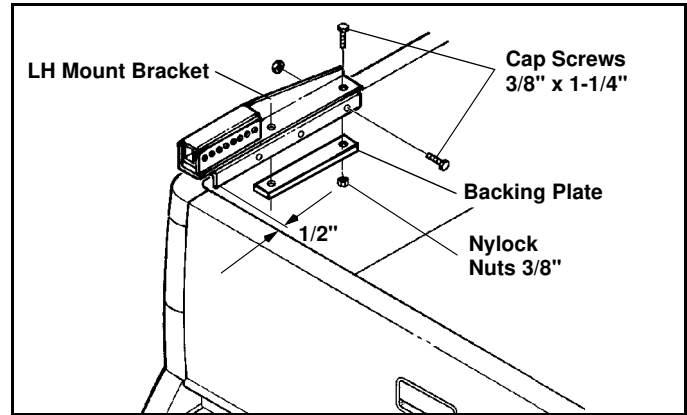

Figure 1-2
3. Place Mount Brackets (#96102402) on top of pick up bed side rails with leg of bracket against inside of pickup bed top side rail and with back of vertical leg approximately 1/2" in front of the inside of the tailgate. The square tube is to the rear of the bracket (closest to tailgate). (See Figure 1-2)
7. Place Backing Plate (#96102273) under frame rail and secure each Mount Bracket to vehicle rail using five (5) 3/8" x 1-1/4" Cap Screws (#98009034) and Nylock Nuts provided. (See Figure 1-2)